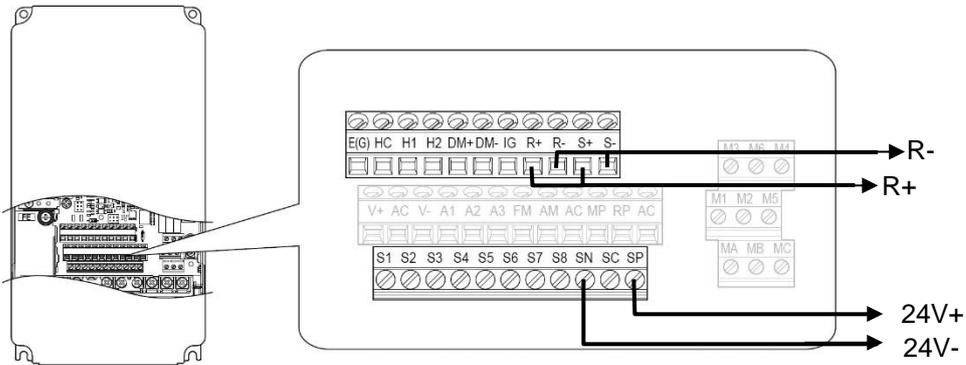

Figure 15: Wiring of L1000H (CIMR-LC4F## type) to the Pro-Hydro card
- 2- Do following connections between **L1000H** YASKAWA drive and the **Pro-Hydro** card, see Figure 15.